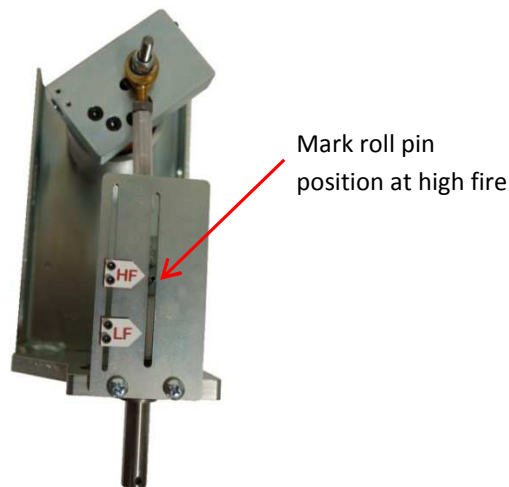

Figure 20: Mark the High Fire Position
15. Mark the high fire position on the indicator bracket as shown in Figure 20 below.